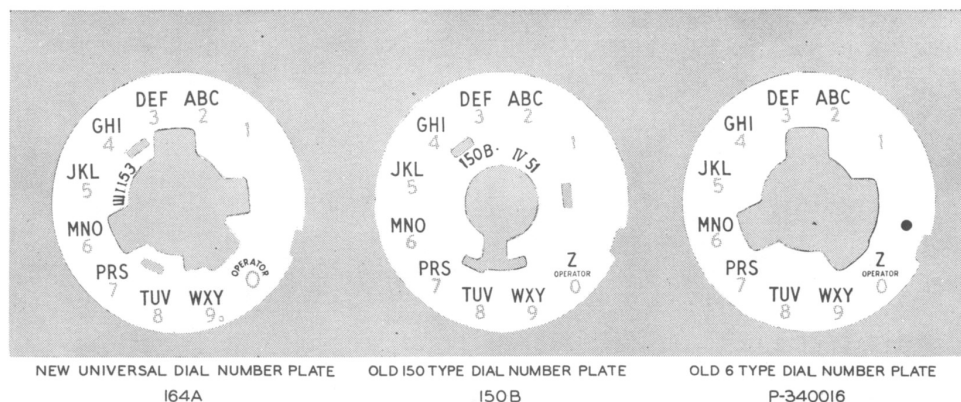

Fig. 7—Number Plates
4.01 A number plate 164A has been made available for use with 2-, 4-, 5-, and 6-type dials. It is intended for general station use. A blank number plate 164B is available for use with coin collectors. Fig. 7 shows comparison of the universal number plate 164A with the 150B and P-340016 number plates.